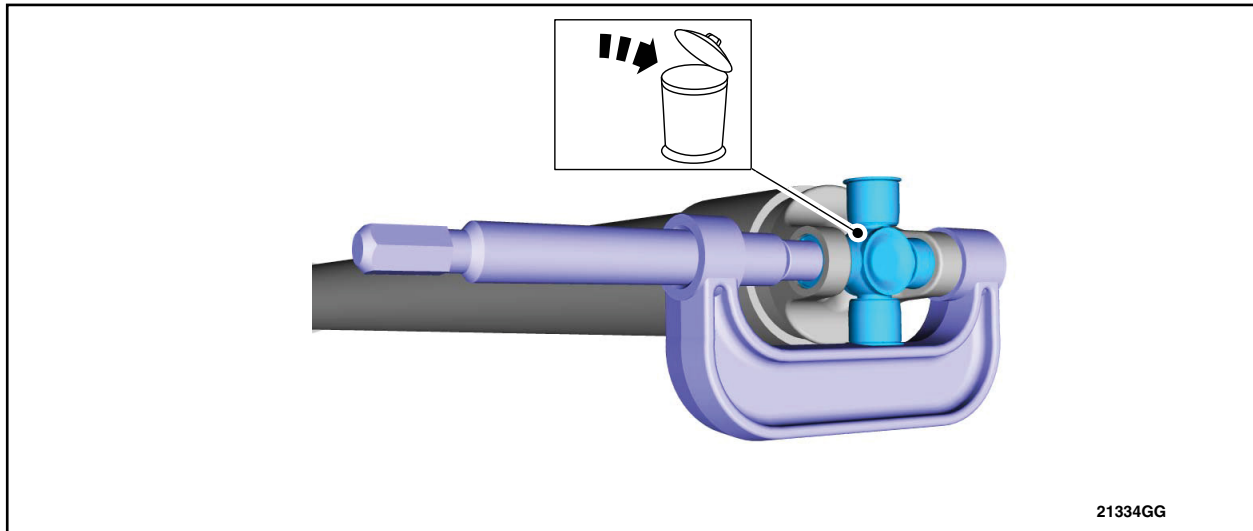

FIGURE 32
43. Using the special tool (205-086), press the u-joint bearing cups out of the driveshaft yoke and remove and discard the u-joint. See Figure 32.